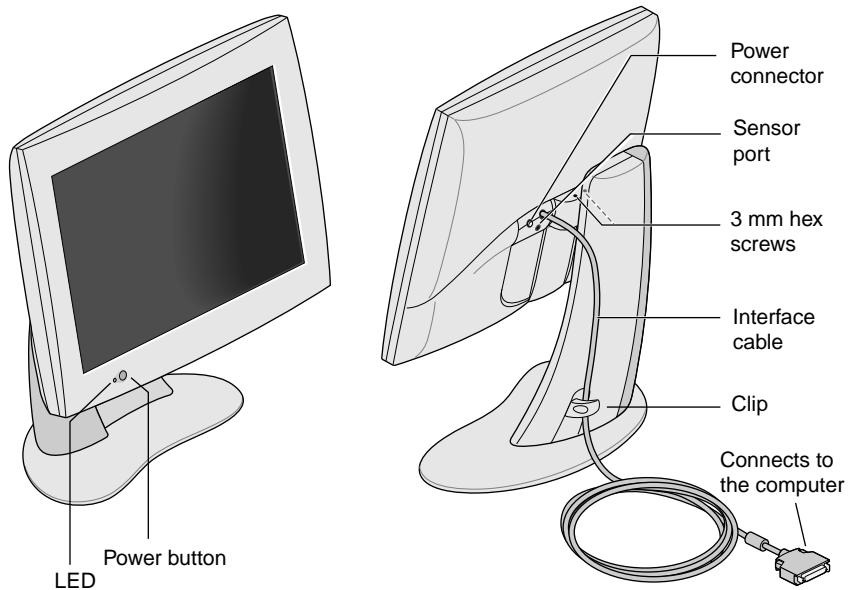

Figure 1-1 Front and Rear Views of the Flat Panel Monitor.
You may want to take a moment to familiarize yourself with the monitor's features, as shown in Figure 1-1.
2. Attach the flat panel monitor's interface cable, indicated in Figure 1-1, to the appropriate connector on your computer. (See your computer's documentation.)
3. Tuck the interface cable behind the clip on the base of the monitor, as shown in Figure 1-1.
To turn on the monitor, press the power button on the front. See Figure 1-1 for the location of the power button. Once the system supplies signals to the flat panel monitor, the LED on the bottom left turns green.
To turn off the monitor, press the power button on the front. See Figure 1-1. It is recommend that you turn your monitor off whenever you are going to be away for more than a few hours; doing so can dramatically increase the life span of the lamps in the backlight of the flat panel monitor.
The flat panel monitor is equipped with a sensor port, which is a 3.5 mm (1/8 inch) jack located between and slightly below the power connector and the interface cable. See Figure 1-1.